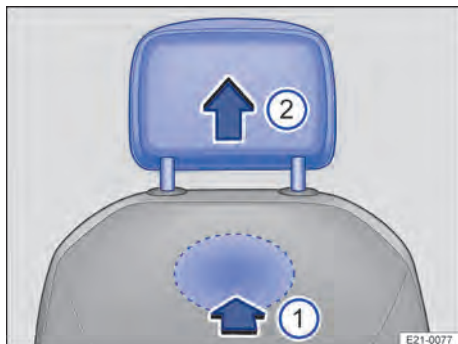

Fig. 72 On the rear of the front seats: removing the head restraint.
2. To unlock the head restraint, feel for the recess in the marked area on the rear of the backrest and use a finger to press it in the direction of the arrow → Fig. 72 ①.
3. For seats with a stowage area in the backrest, press the recess by pushing a long object through the hole in the upper part under the rubber strap on the stowage area → ①.
4. Pull the head restraint out fully in the direction of the arrow → Fig. 72 ②.